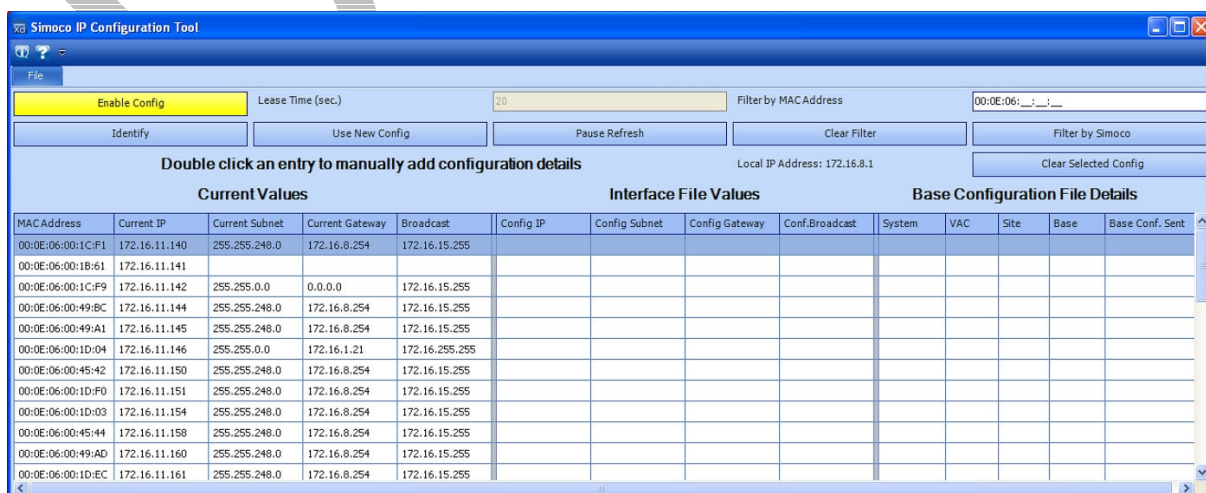

Figure 13. IP Configuration Tool main screen
11. Once the IP address has been selected the Simoco IP Configuration Tool main screen will be displayed (see **Figure 13** below).